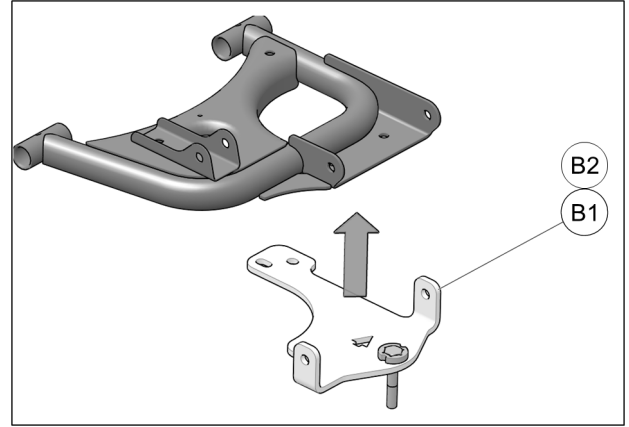

Fig. 7
6. Position anchor bracket (B1-B2) under lower rear suspension arm. See Fig. 7